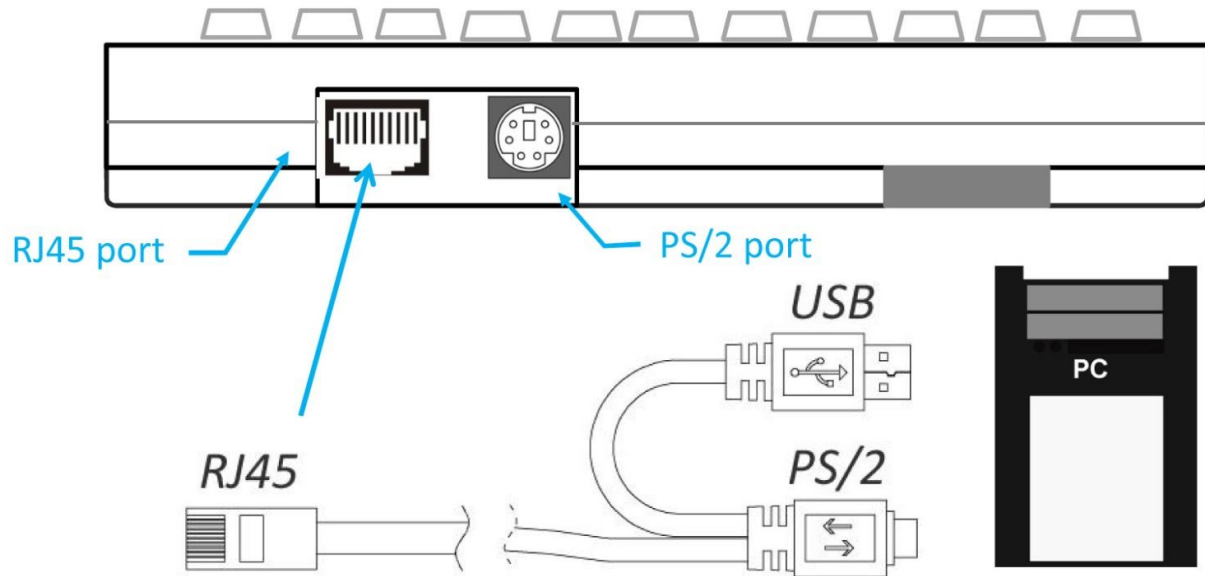

Figure 1.0
1. *This programming tool works only under USB interface of PKB-60 POS keyboard. Please make sure if your USB jack is well connected to PC's USB port, please refer (Figure 1.0.)*